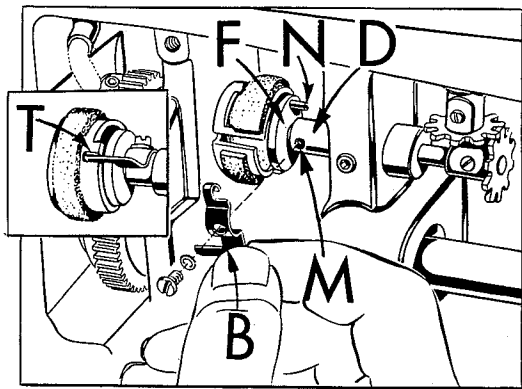

Fig. 23
10. Turn hook oil control shaft (D, Fig. 23) until screw hole (M) is accessible. Manually rotate pump disc (F) so its stop pin (N) is 90° above screw hole.
11. Rotate metering cup so the short slot (T) is 180° from the stop pin (N). Now, install the hook oil control finger (B) by first hanging the hooked portion of the finger over the stop pin (N) and lowering to insert the projection at bottom left into the short slot of the metering cup. Tighten finger (B) in place by means of screw and washer, making sure the hook oil control finger does not bind or distort the metering cup.